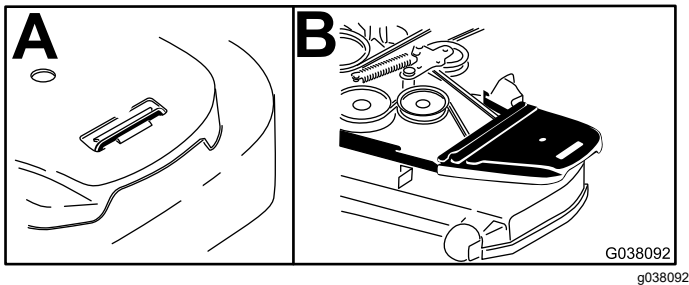

Figure 15
2. Remove the right belt cover (Figure 15).